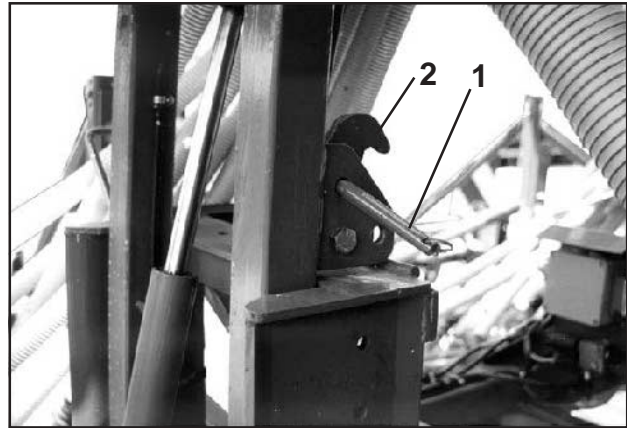

Fig. 9.4
- Fold the safety catch upwards (9.4/2) and secure with pin and R-clip. (Fig. 9.4).